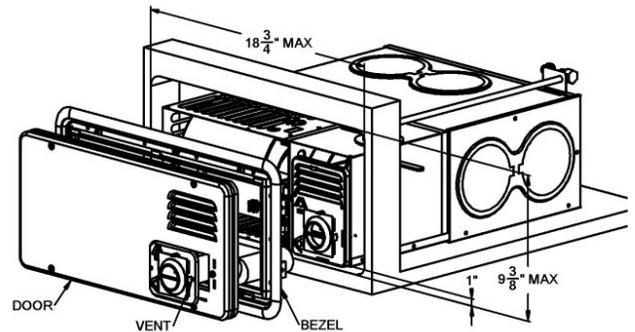

Figure 4
- Locate and cut hole location in side wall per figure 4.